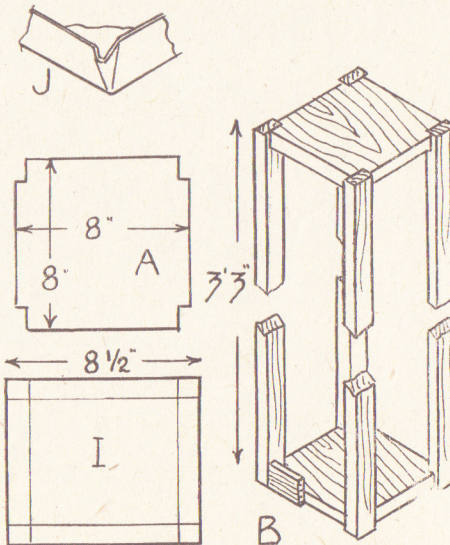

Fig. 1—The carcase of the framework
Fig. 1 shows the method of building it, the carcase being four upright strips of wood, joined together at top and bottom with the two pieces of timber, shown at (A). These parts are cut to the dimensions given from $\frac{3}{4}$ in. thick wood. At each corner cut out a piece 1 in. long and $\frac{3}{4}$ in. wide. The four uprights are of $1\frac{1}{2}$ in. by $\frac{3}{4}$ in. section, and can well be sawn from a piece of the $\frac{3}{4}$ in. thick board from which parts (A) have been cut.